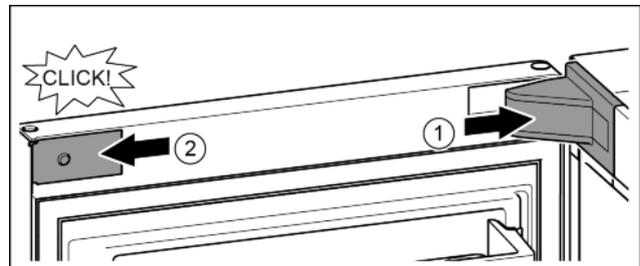

Fig. 19
- ▶ Position the bearing bracket and engage. If necessary push apart carefully. Fig. 19 (1)
- ▶ Position the panel on the side and click into place. Fig. 19 (2)